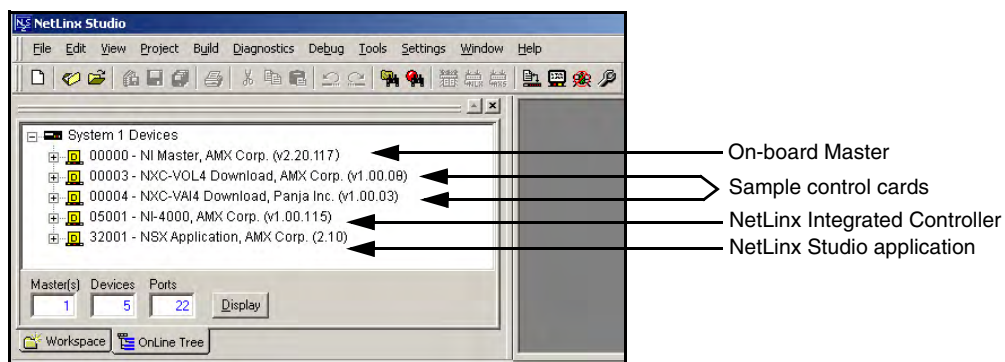

FIG. 29 Sample NetLinx Workspace window (showing OnLine Tree tab)
3. After the Communication Verification dialog window indicates active communication between the PC and the Master, verify the NetLinx Master (**NI Master**) appears in the **OnLine Tree** tab of the Workspace window (FIG. 29). *The default NI Master value is zero (00000).*